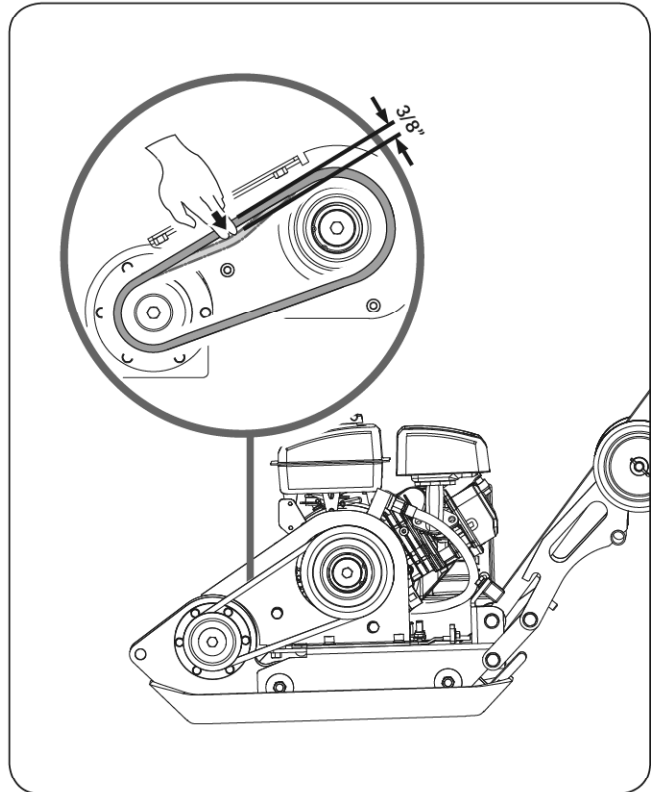

Figure 7b
4. Check the V-belt tension by squeezing them in the center. The normal deflection on each side should be 3/8" (9mm) to 1/2" (13mm) with moderate pressure from your thumb or finger. (See **Figure 7b**)
7. Move the engine back by hand until reach the right belt tension, Refer to the **Figure 7b** to check the belt tension. Then lock the jam nut.